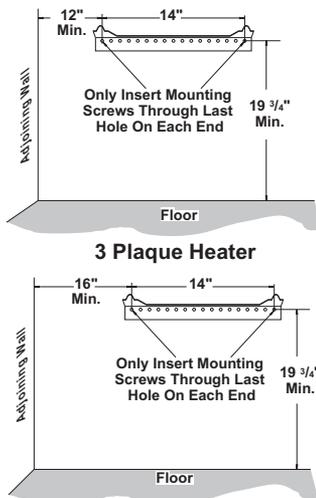

Figure 8 - Mounting bracket Clearances
**⚠ WARNING: Maintain minimum clearances shown in Figure 8. If you can, provide greater clearances from floor and joining wall.**
2. Mark screw locations on wall (see Figure 8).